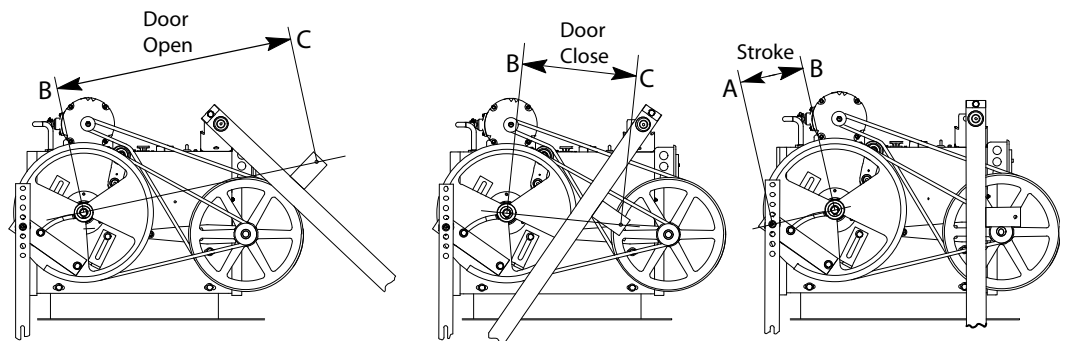

Figure 4 - Door Operator Stroke
2. Measure the distance from **B** to **C** and record this measurement as Door Open (DO). See Figure 4.
4. Measure the distance from **B** to **C** and record this measurement as Door Closed (DC). See Figure 4.
7. Move the adjustable arm in the circular slot of the drive wheel so that the distance from **A** to **B** is equal to the calculated stroke length. See Figure 4.